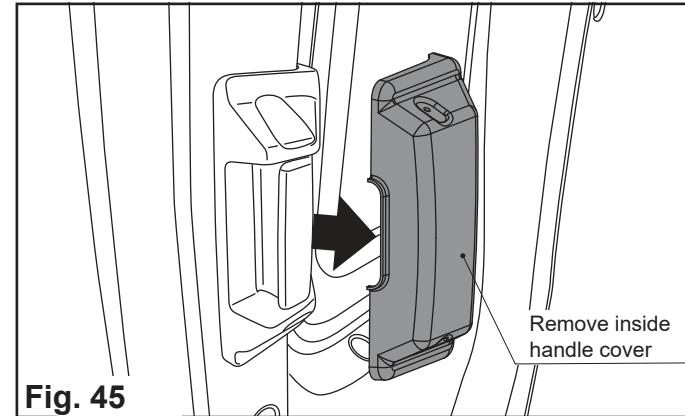

Fig. 45
4. Unscrew the balljoint (Fig. 45).
5. Remove the drive off the rack (Fig. 45).